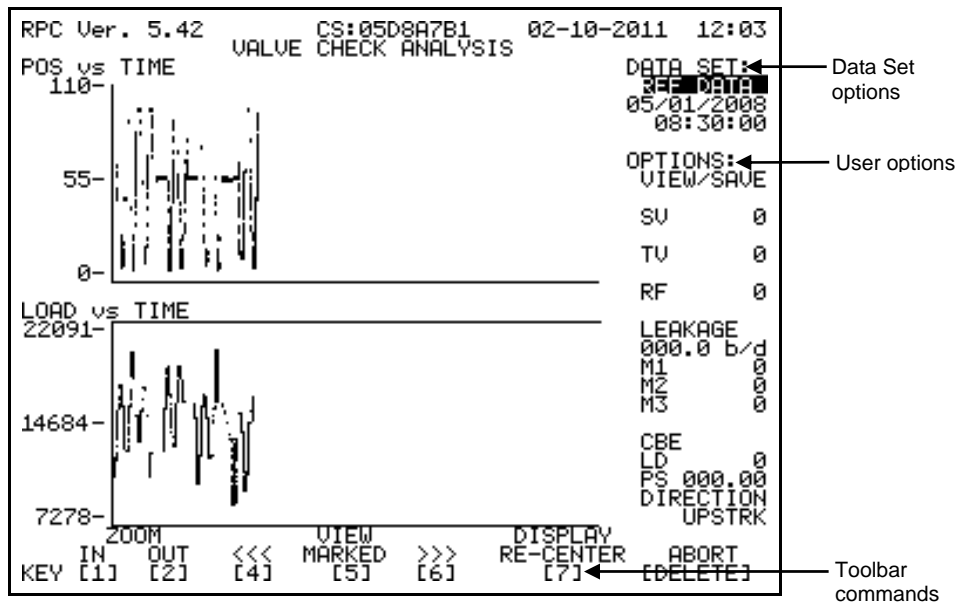

Figure B-3. Valve Check Analysis Screen
To display the recorded valve check data for analysis, select **2. ANALYSIS** from the RPC Valve Check Menu screen to display a Valve Check Analysis screen similar to Figure B-3. This screen displays all of the data from the working data set.
6. You must also enter the correct Upstroke/Downstroke selection in the **DIRECTION** field. That field is not shown on Figure B-3 (page B-8) but will be added by the Lufkin Well Manager RPC firmware as appropriate. The **DIRECTION** field is added just below the **PS** field in the CBE part of the screen.